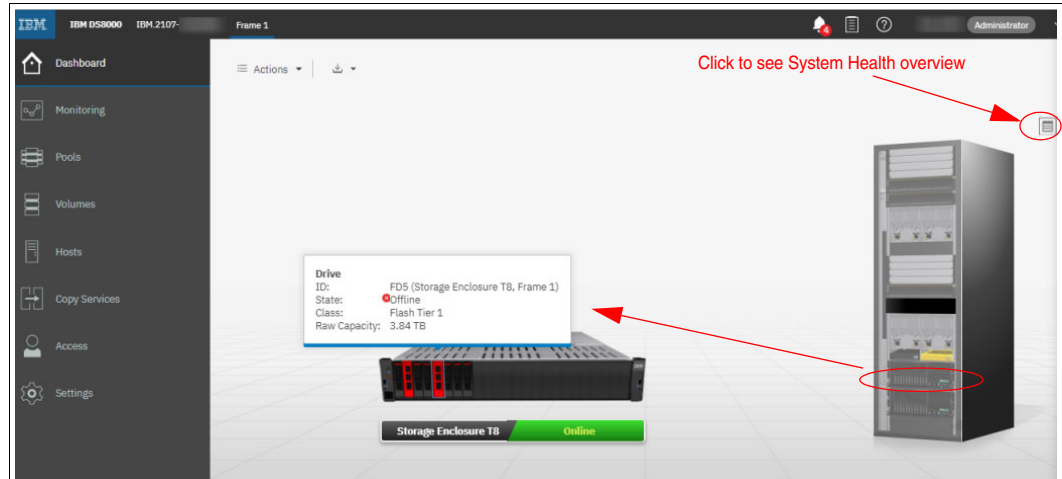

Figure 9-101 Hardware view with failed drives
- **Failed drives:** Figure 9-101 shows two failed drives in one of the storage enclosures of the system. Clicking this enclosure from the Hardware view provides a detailed view of the enclosure with all the drives, including the failed drives. Hovering your cursor over the failed drives provide more information about them.
The same information can be obtained by clicking the **Show System Health Overview** icon, as shown in Figure 9-101.